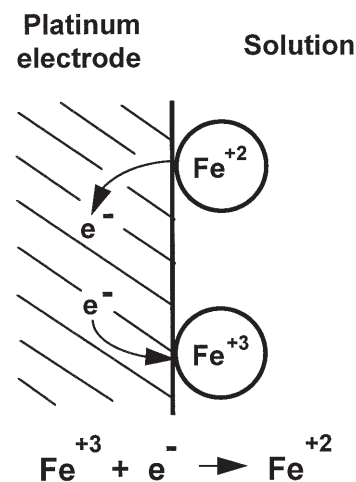

FIGURE 14-5. Electrode Potential.
Figure 14-5 shows a platinum ORP electrode in contact with a solution of iron (II) and iron (III). As discussed earlier, iron (II) and iron (III) are a redox couple. They are related by the following half reaction: